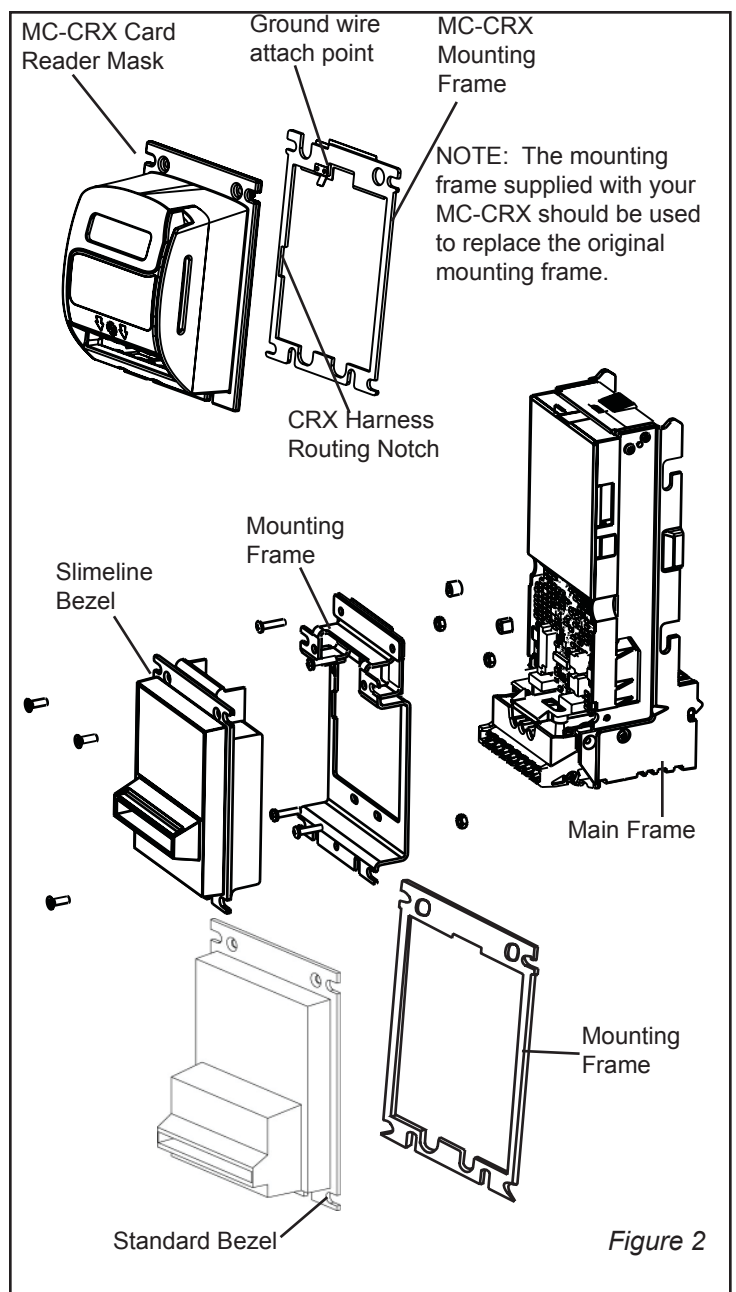

Figure 2
- Using a Phillips screwdriver, remove the 4 screws that secure the MC Series bezel to the mounting frame and mainframe (See Figure 2).
- Using a Phillips screwdriver, remove the 3 screws that secure the MC Series bezel to the mounting frame (See Figure 2).
The MC-CRX card reader is manufactured from metal and high-quality plastics, which should only be cleaned with a soft bristle brush or cloth dampened with warm water and a mild detergent solution, if necessary. Dust can be removed using a soft brush or blown out using compressed air. (refer to Figures 2 & 3)